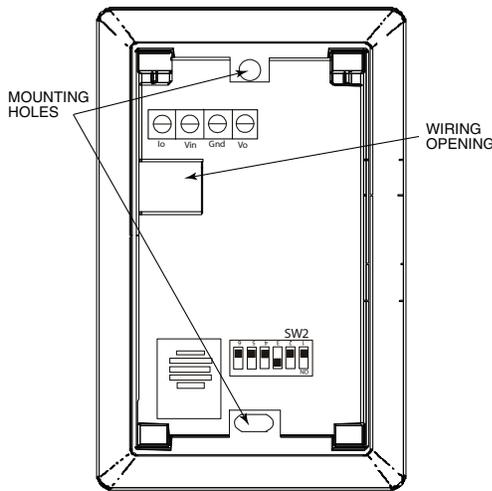

Fig. 69 — Space Relative Humidity Sensor Installation
If the sensor is installed directly on a wall service, install the humidity sensor using 2 screws and 2 hollow wall anchors (field supplied). Do not over tighten screws. See Fig. 69.
1. At the sensor, remove 4 inches of the jacket from the cable. Strip ¼ inch of insulation from each conductor. Route the cable through the wire clearance opening in the center of the sensor. See Fig. 69.